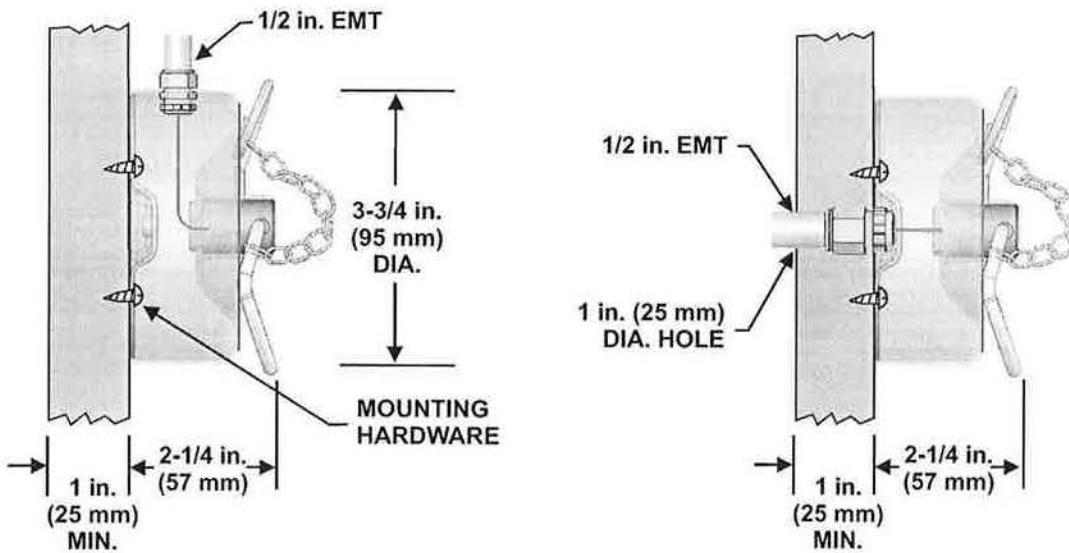

Figure 4-54. Installing the Remote Manual Release, P/N B875572
1. Attach a length of 1/16-inch steel cable to the Remote Manual Release handle, as follows (refer to Figure 4-54):